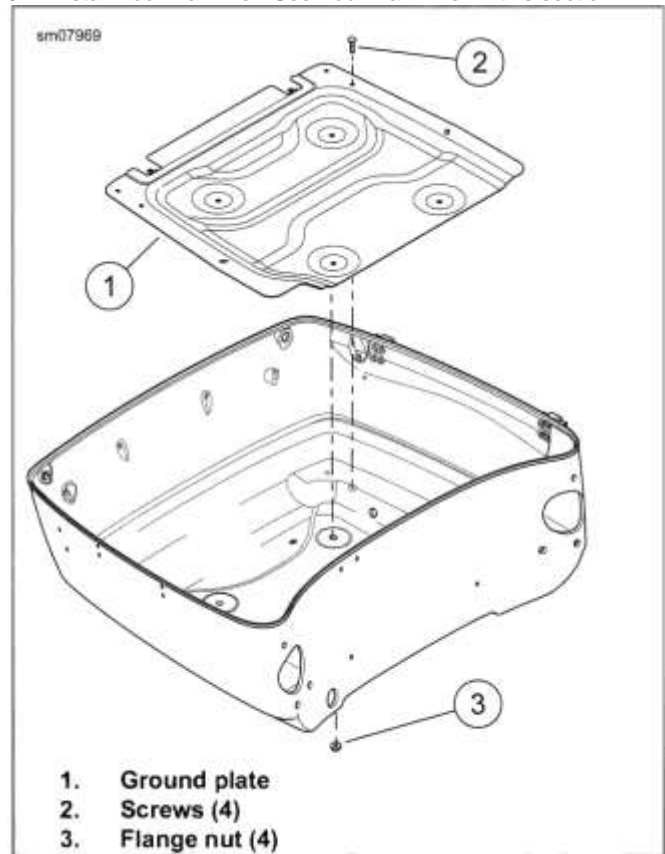

Figure 3-188. Ground Plate
See Figure 3-188. Screws (2) secure both ground plate (1) and marker lamps/trim strips.
3. Remove screws (2).
2. See Figure 3-188. Install ground plate (1).
3. Install four flange nuts (3). Tighten.